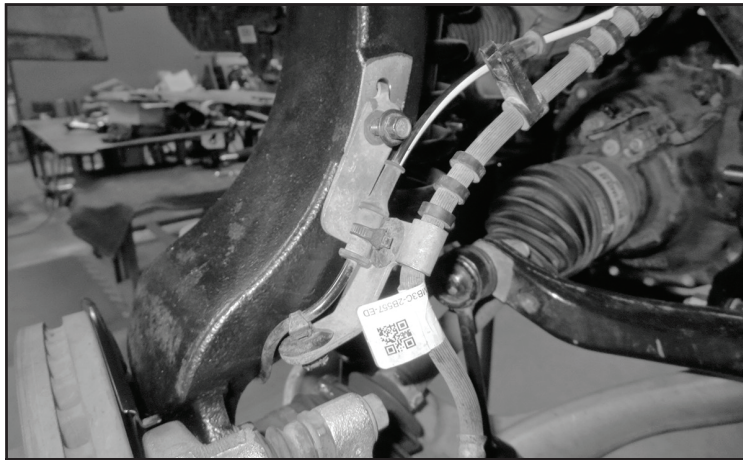

FIGURE 61 - STEP 46
46. Reinstall the Brake hose/ ABS line bracket to the new knuckle using the factory hardware. **SEE FIGURE 61**